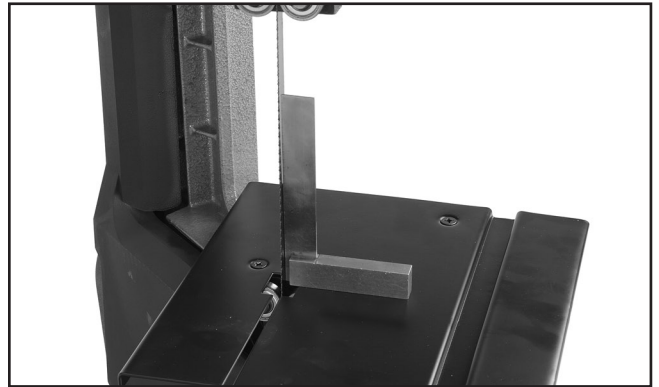

Figure 17. Squaring table to blade.
4. Set a square to the side of the blade, as shown in **Figure 17**, and adjust the table bracket to square the table to the blade.